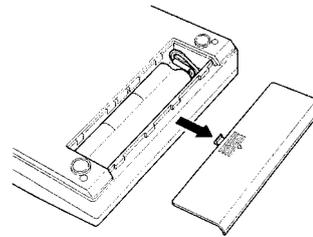

Figure 3
- ① Turn the printer over and open the battery cover as shown in Figure 3.
- ② Pull out the battery pack, grab the connector with your thumb and index finger, and remove it by pulling up on it. Close the battery cover.